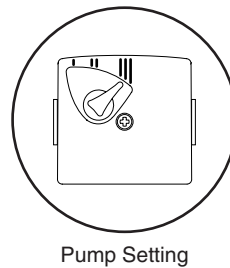

Fig. 55
3. A standard replacement Grundfos 15-60 head can now be fitted. Connect the pump wiring to the new head. **The pump speed must be set to 3** (Fig. 55).